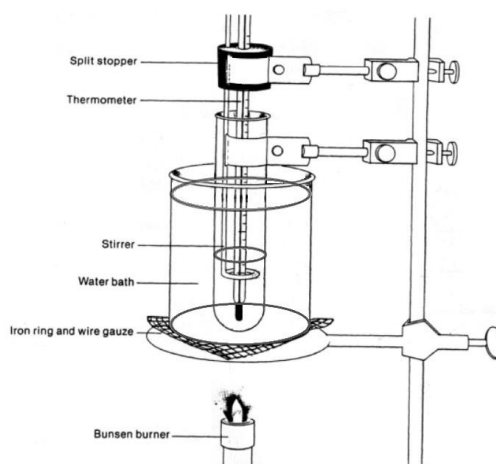

Figure 2
1. Assemble the apparatus as shown in Figure 2. When placing your thermometer in a two-holed cork or a one-holed cork (with a slit in the side), wrap the cork and thermometer with a towel and twist the thermometer slowly and gently into the hole. Otherwise you may break the thermometer.